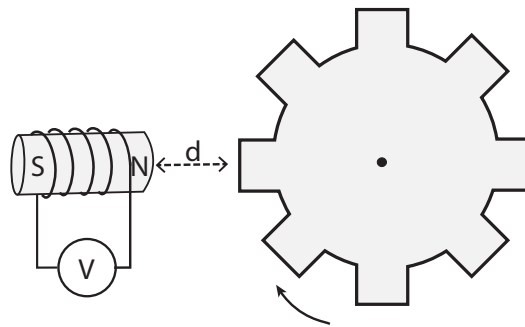

Figure 2-1 Variable Reluctance Sensor and Toothed Wheel
Variable reluctance (VR) sensors are electromechanical transducers used to measure the rotational speed and position of a crankshaft. The VR sensor consists of a permanent magnet surrounded by a coil of wire. A toothed wheel made of a ferrous material is attached to the crankshaft, and the VR sensor is positioned close to the teeth (**Figure 2-1**).